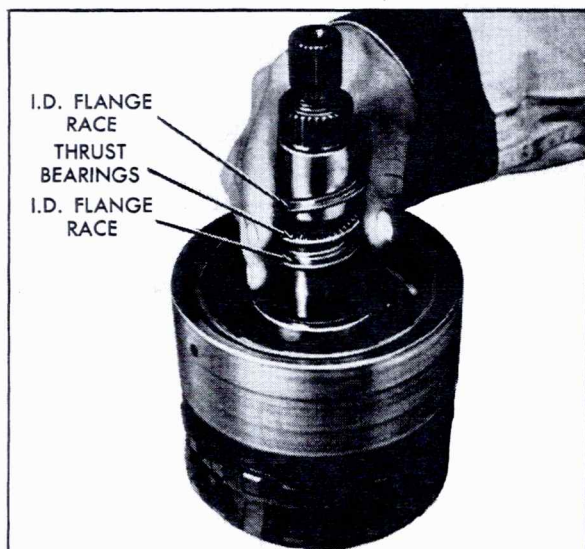

Fig. 7-184 Installing Races and Thrust Bearing over Sun Gear Shaft
o. Lubricate small diameter race with petrolatum and install race on center support with flange facing toward tower end, Fig. 7-184.